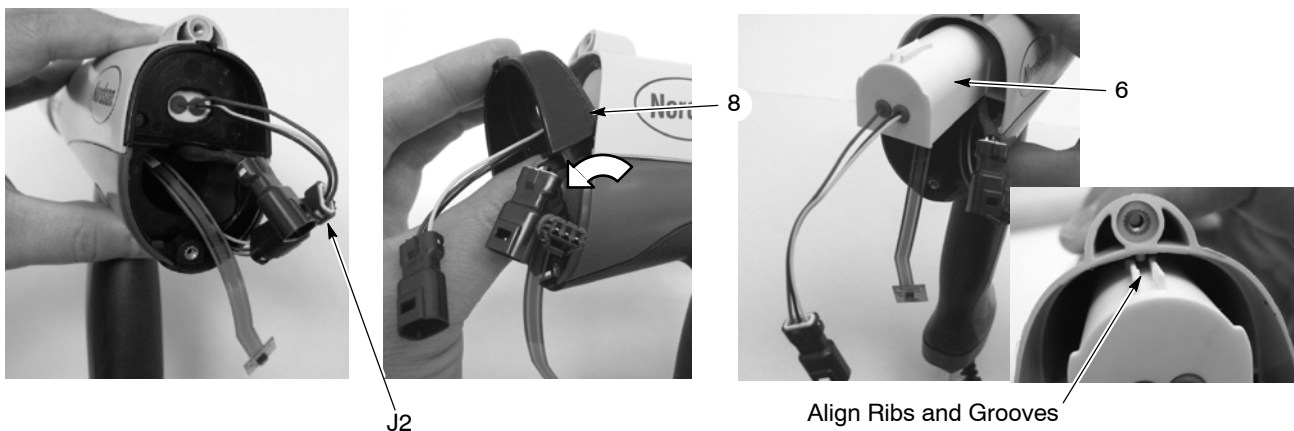

Figure 5-2 Power Supply Replacement
2. See Figure 5-2. Insert a small screwdriver into the recess in the J2 gun cable/power supply connectors to release the catch and disconnect the connectors.
3. Pull on the top of the bulkhead (8) to remove it from the gun.
4. Slide the power supply (6) out of the gun body and pull the power supply leads and connector out of the bulkhead.
- See Figure 5-2. If you removed the power supply, slide it into the upper cavity of the gun body, guiding the guide ribs inside the gun body between the mating grooves on the power supply.